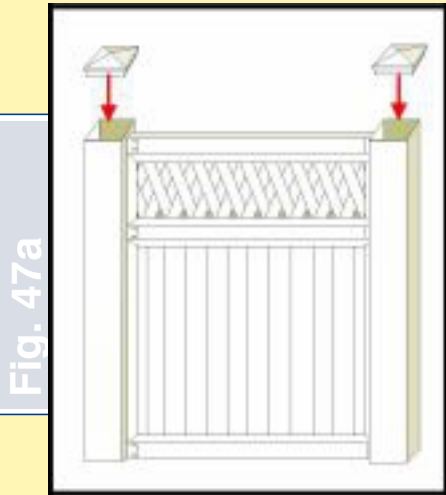

Fig. 47a
- if using posts made by Royal Europa, fix decorative caps by means of glue. It is recommended to use the colourless glue Cosmofen Plus - Fig. 47a